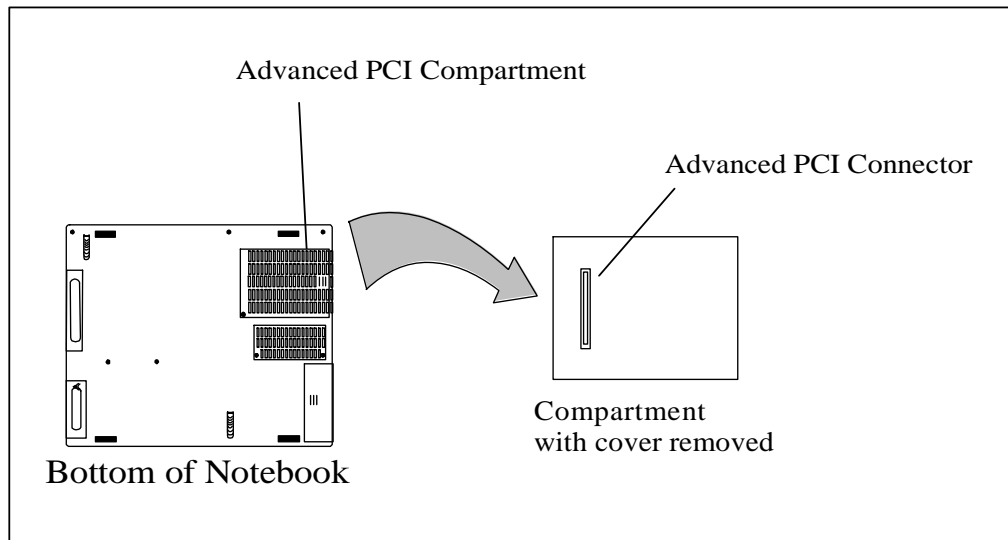

Figure 2-2 Installing an Advanced PCI Card Option
3. Turn the notebook over and locate the Advanced PCI Access Cover on the bottom of the notebook (refer to Figure 2-2).